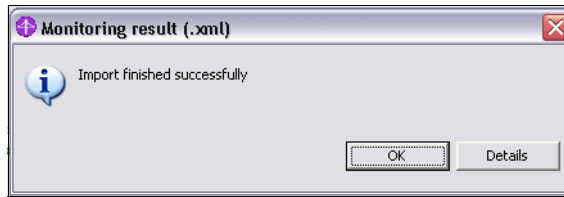

Figure 15-6 Modeler: Importing Monitor results (4)
- Processing starts and displays a dialog indicating that the import was successful (Figure 15-6). If there are problems, details can be inspected.